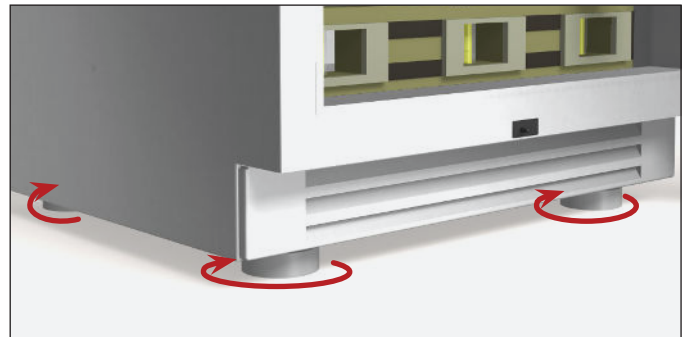

FIG. 2. Turn the leveling legs clockwise to lower the unit or counterclockwise to raise the unit.
3. Turn the leveling legs as needed to adjust the level. See fig. 2.